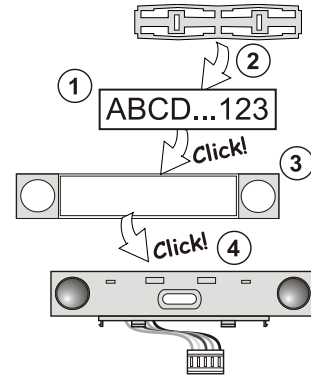

Figure 3: Inserting a label into a control segment
- When the device is switched on, the yellow backlit activation button (3) starts flashing repeatedly to indicate that the module has not been enrolled into the system.
- Press the backlit activation button (3) above the screen – the module is thus enrolled and the yellow LED indicator goes off.
- When you have completed the installation, insert descriptive labels onto the segment transparent covers and close them, see figure 3. Label printing is a part of the F-Link software (**Devices** window, at the module position – **Internal settings**).